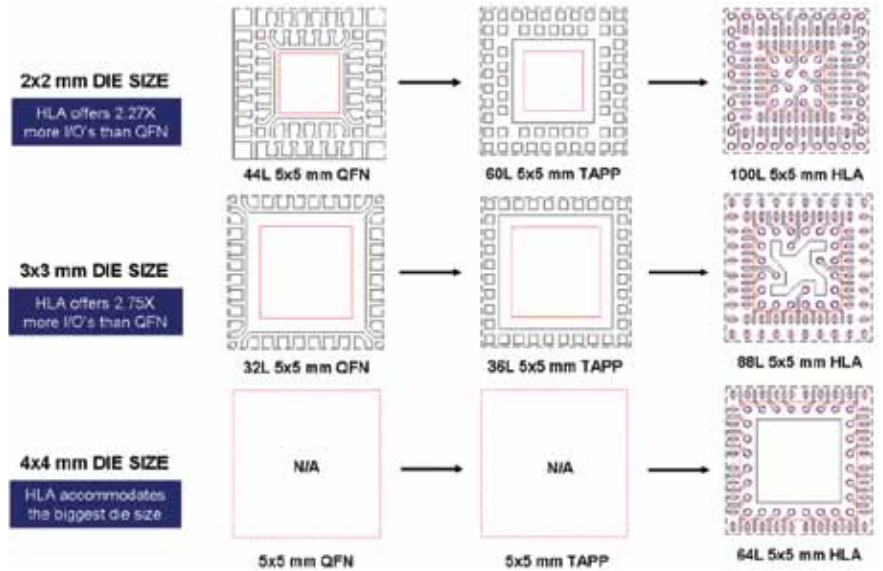

Figure 3. Maximum I/O counts possible in a 5x5mm body size, all at 0.5mm terminal pitch.
1) Max Die size - General rule of thumb for HLA is the package size minus 1 mm. So a 4x4 mm die can fit in a 5x5 mm package. No current leadframe technology can offer this. See Figure 3 showing maximum I/O counts possible in a 5x5mm body size, all at 0.5mm terminal pitch, at various die sizes.